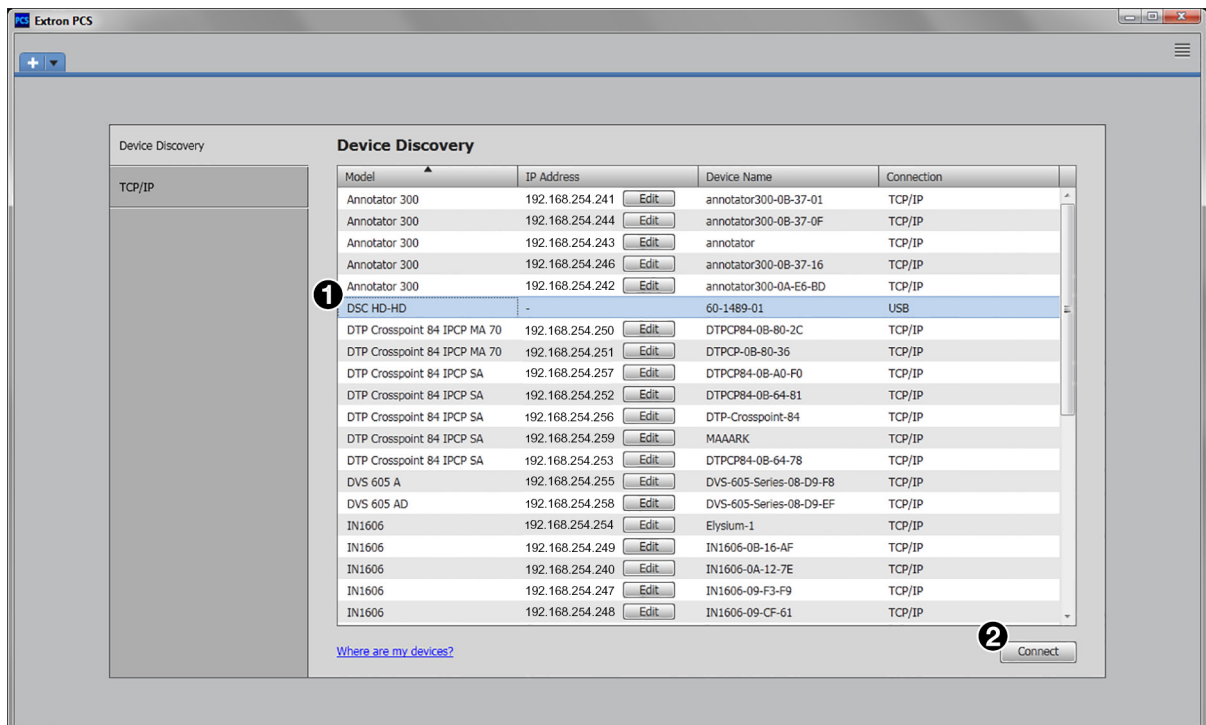

Figure 19. Device Discovery Panel with DSC HD-HD Selected
- On the Extron PCS window, click on **DSC HD-HD** in the **Device Discovery** panel (see figure 19, ①). The **Connect** button in the bottom-right corner becomes available.
- Click **Connect** (②) to open the DSC HD-HD main window.